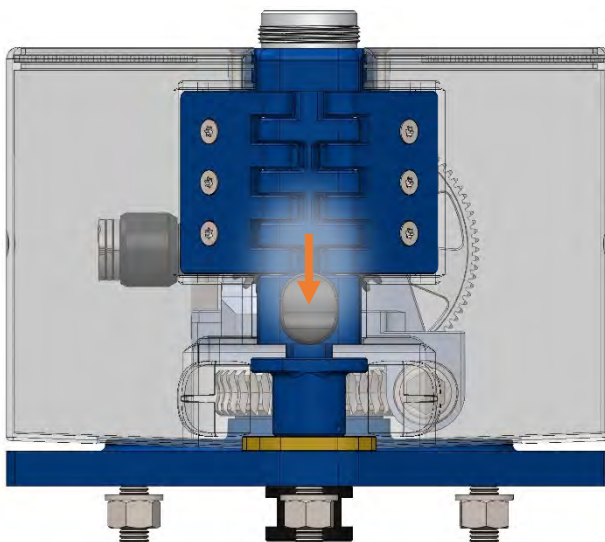

Figure 15
1. Press the button on the side of the cover. Figure 15;